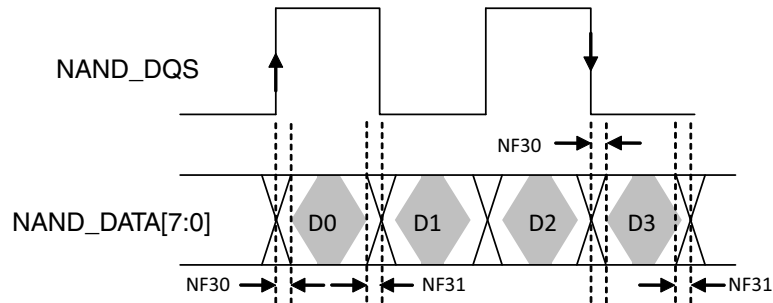

Figure 33. NAND_DQS/NAND_DQ Read Valid Window
For DDR Source sync mode, Figure 33 shows the timing diagram of NAND_DQS/NAND_DATAxx read valid window. The typical value of tDQSS is 0.85ns (max) and 1ns (max) for tQHS at 200MB/s. GPMI will sample NAND_DATA[7:0] at both rising and falling edge of a delayed NAND_DQS signal, which can be provided by an internal DPLL. The delay value can be controlled by GPMI register GPMI_READ_DDR_DLL_CTRL.SLV_DLY_TARGET (see the GPMI chapter of the i.MX 6Solo/6DualLite reference manual). Generally, the typical delay value of this register is equal to 0x7 which means 1/4 clock cycle delay expected. But if the board delay is big enough and cannot be ignored, the delay value should be made larger to compensate the board delay.
- ⁷ Shown in Figure 33, NAND_DQS/NAND_DQ Read Valid Window.
For DDR Toggle mode, Figure 33 shows the timing diagram of NAND_DQS/NAND_DATA_{xx} read valid window. The typical value of tDQSQ is 1.4 ns (max) and 1.4 ns (max) for tQHS at 133 MB/s. GPMI will sample NAND_DATA[7:0] at both rising and falling edge of a delayed NAND_DQS signal, which is provided by an internal DPLL. The delay value of this register can be controlled by GPMI register GPMI_READ_DDR_DLL_CTRL.SLV_DLY_TARGET (see the GPMI chapter of the i.MX 6Solo/6DualLite reference manual). Generally, the typical delay value is equal to 0x7 which means 1/4 clock cycle delay expected. But if the board delay is big enough and cannot be ignored, the delay value should be made larger to compensate the board delay.